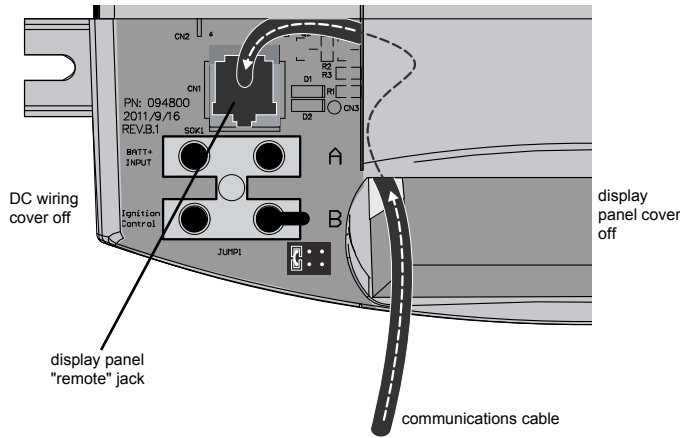

Figure 10 Communications Cable
7. Route the communications cable to the Freedom HFS and insert the connector in the display panel "remote" jack (see Figure 10).